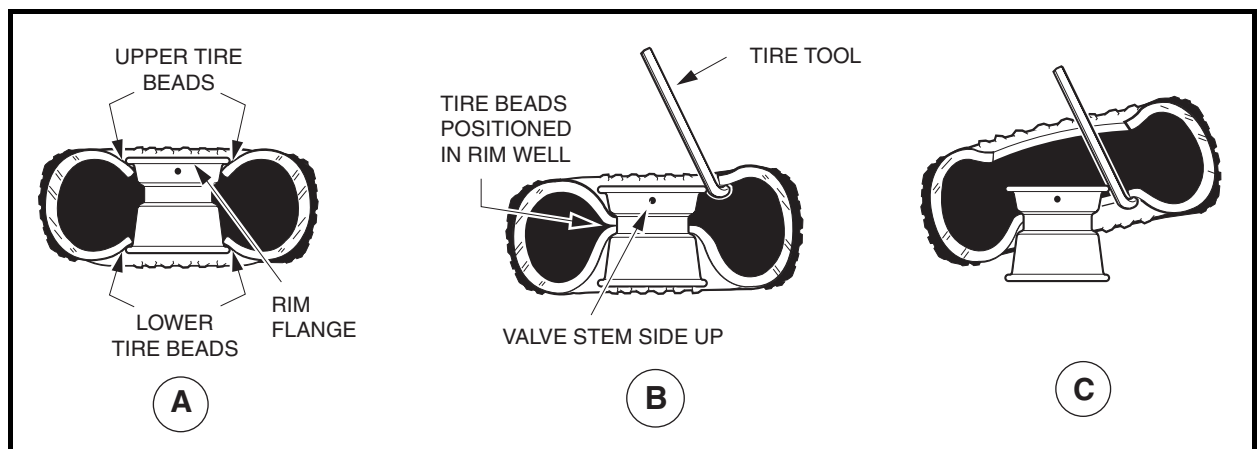

Figure 8-1 Tire Removal
- 3.1. If a tire machine is not available, loosen both tire beads by applying pressure to the tire side walls and pushing the tire bead away from the rim flange and into the rim well (**Figure 8-1, Page 8-2, Detail A**).
- 3.2. With the valve stem side of the wheel up, use a tire tool to carefully start the upper bead over the edge of the wheel rim (**Figure 8-1, Page 8-2, Detail B**). **See following CAUTION.**
- 3.3. When top bead is free of the rim, pull the bead from the bottom side of the rim up into the upper part of the rim well. Insert the tire tool under the lower bead as shown (**Figure 8-1, Page 8-2, Detail C**) and carefully pry the lower bead over the rim flange.